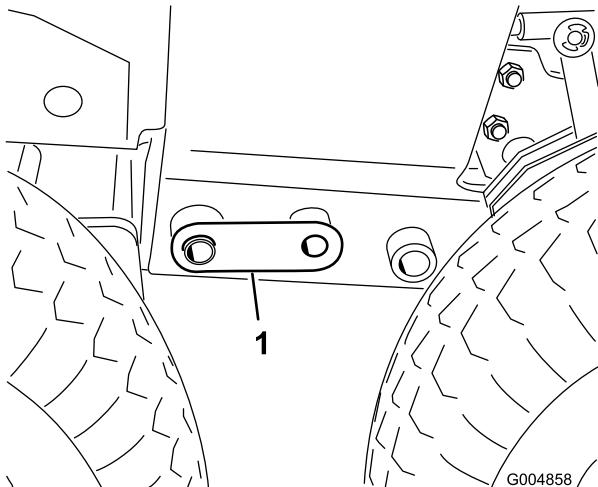

Figure 49
9. Adjust the floor jack to line up the 1.00 inch holes in the frame and install a coupler pin on each side (Figure 49).